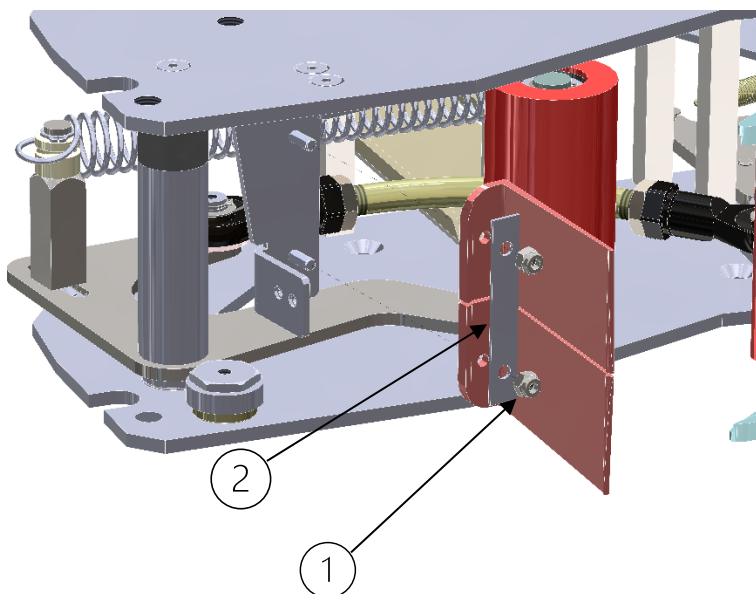

Figure 10-21
4. Fasten to the M4 PEM studs the washer and nylon lock nuts as they were at the beginning. **Figure 10-21**